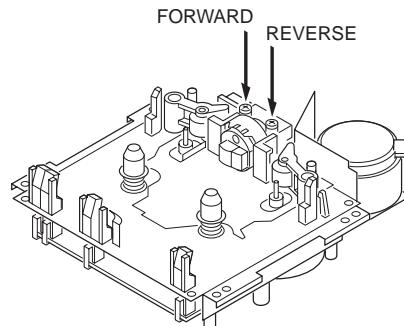

Fig. 1
4. Use a + tip screwdriver to turn the screw for normal azimuth adjustment so that the left and right outputs are maximized at the same phase during normal playback. See Fig.1.